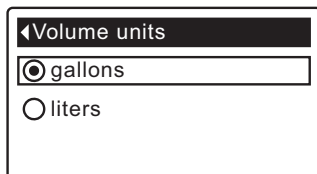

FIG. 52
5. Press the SELECT (O) button to display the Volume units menu (See Figure 52).
6. If the desired volume unit already has a black dot next to it (See Figure 52), go to Step 7. Otherwise, press the DOWN (▼) or UP (▲) buttons to scroll to the other volume unit, then press SELECT (O) to choose it.
7. Press the SELECT (O) button. The display will go back to the User preferences menu.